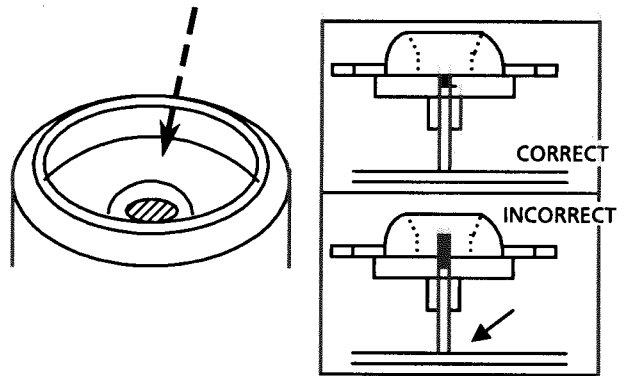

Fig 13
- (12)**After inserting the turntable, bond the motor shaft and turntable together (at the section marked by an arrow in fig 13 on the left below).
- (13)**Use "LOCKTITE" #460 bonding agent, and apply as little as possible. Take care not to allow any excess bonding agent to get onto the turntable. Be extremely careful not to allow bonding agent to adhere to the motor bearing (the section marked by an allow in fig 13 on the right).